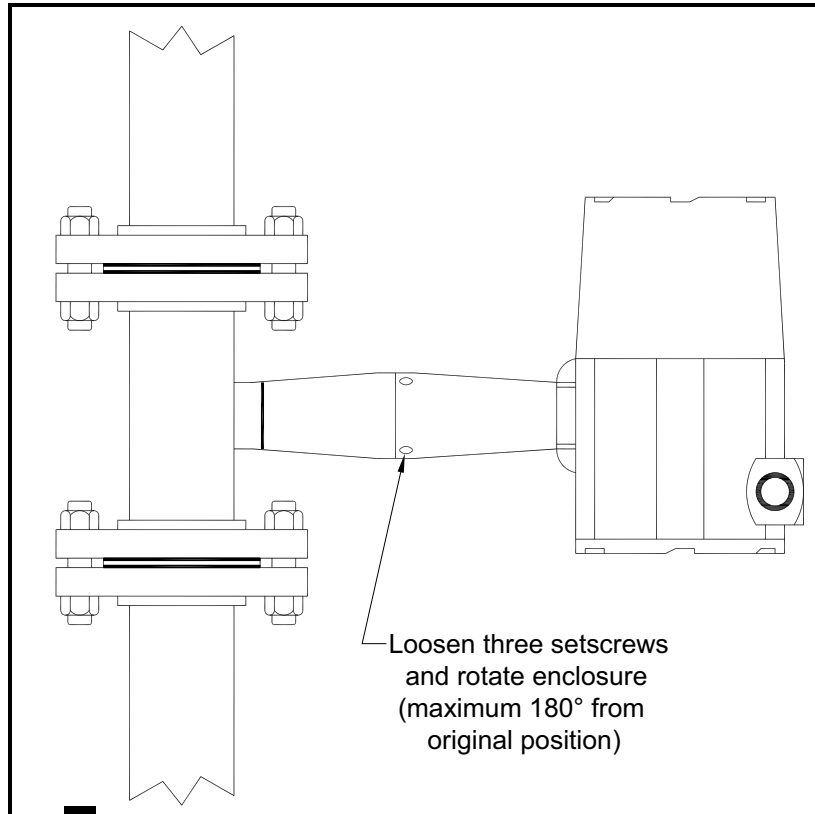

Figure 22: Enclosure Viewing Adjustment
To adjust the enclosure position, refer to *Figure 22* below and complete the following steps:
2. Loosen the three set screws shown in *Figure 22* above and rotate the display to the desired position. The maximum allowable rotation is 180°.